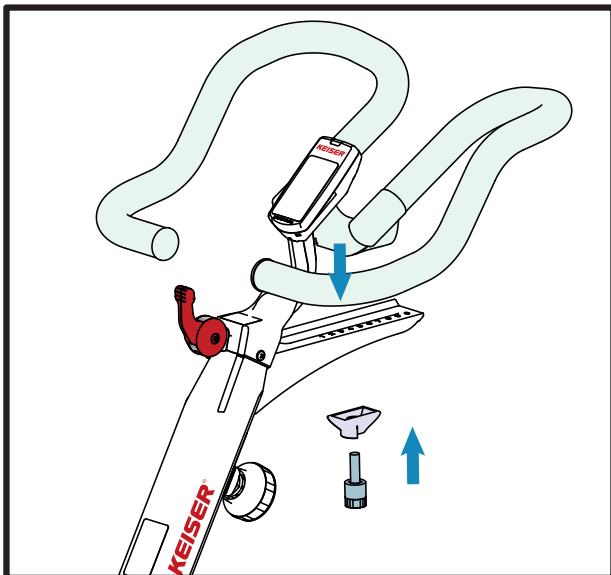

Figure 17. Assemble Handlebar, Handle Stud, and the Handlebar Spacer
- b) Fit the handle stud in the handlebar spacer, and then attach the handlebars to the handlebar slide, refer to Figure 17. Hand tighten the assembly.